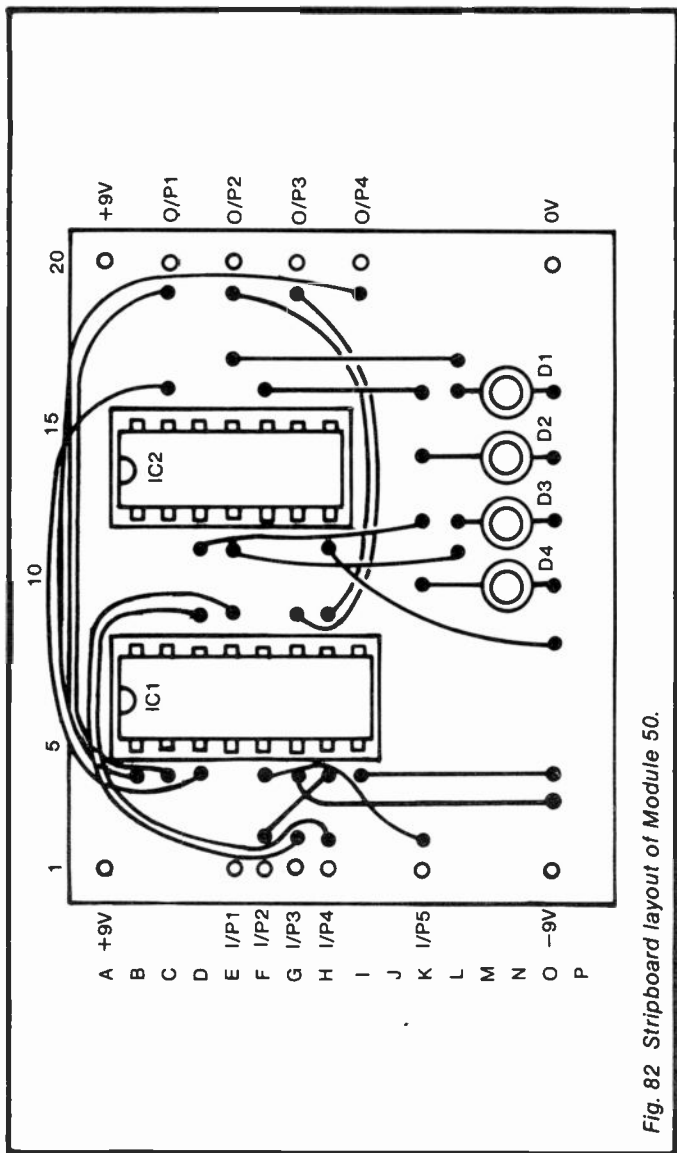

Fig. 82 Stripboard layout of Module 50.
*Stripboard layout:* see Figure 82. Cut strips beneath the board at B6 to I6, B10, D10, E10, G10, H10, B13 to H13,